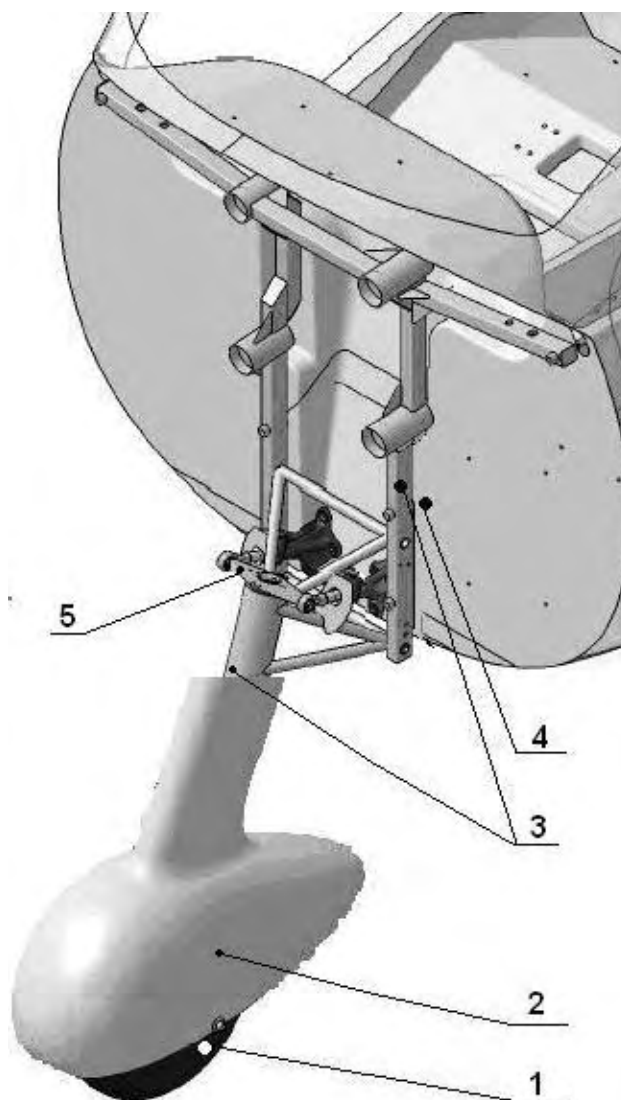

Fig. 1
- 1) The strut and fork for damages, dents, cracks, paint detachment (Fig. 1). Pay specific attention to welding seam areas. Check for obvious damage to all visible parts each time the fairing is removed (Fig. 1, item 2).
- 2) The engine mounts for damage, dents, cracks (Fig. 1, item 3). Pay specific attention to welding seam areas. Check all visible surfaces before each flight (inspect engine compartment visually each time the cowlings are removed).
- 3) The firewall for damage, dents, cracks, delaminating (Fig. 1, item 4). Pay specific attention to the areas where the engine mount is attached to the firewall. Check all visible surfaces each time the cowlings are removed.
- 4) For all items above, thoroughly inspect with all removable items off at least (cowlings, fairing (Fig. 1, item 2) and so on). In case of a hard landing, inspect right after the landing.
**Note:** If damages are found per items 1 through 4, inform directly Flight Design for inspection and further instructions.
Shock absorber (Fig. 1) for binding and unusual noises while operating (all three wheels must be on the ground):
Inspect the fork for play, binding and unusual sounds while rotating (Fig. 1, items 3) with the rudder pedals: